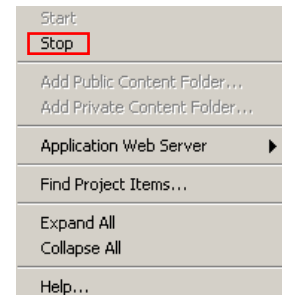

Figure 2c: Stop LabVIEW player
- To stop the LabVIEW player right click on “v1” as shown in Figure 2c. Select “Stop”